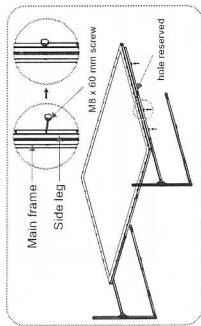

Figure 16
2. It is suggested to install the main frame on a flat ground. Put the completed legs besides the main frame short side and fix it to the main frame according to required screen height by means of M8 x 60 mm screw (Figure 16 - 17). (Note: Leave one hole on the main frame for the fastening of the M8 x 60 mm screw.)